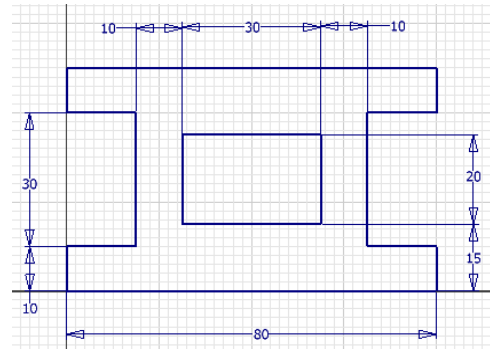

Figure 3-52 Fully constrained sketch for Tutorial 1
- Dimension the sketch by using the origin to fully constrain it, refer to Figure 3-52.
Figure 3-52 shows the fully constrained sketch for Tutorial 1.